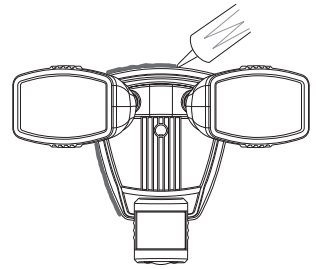

Figure 6
6. Caulk around 1-2-Easy Connect™ and mounting surface with silicone weather sealant (see Figure 6).